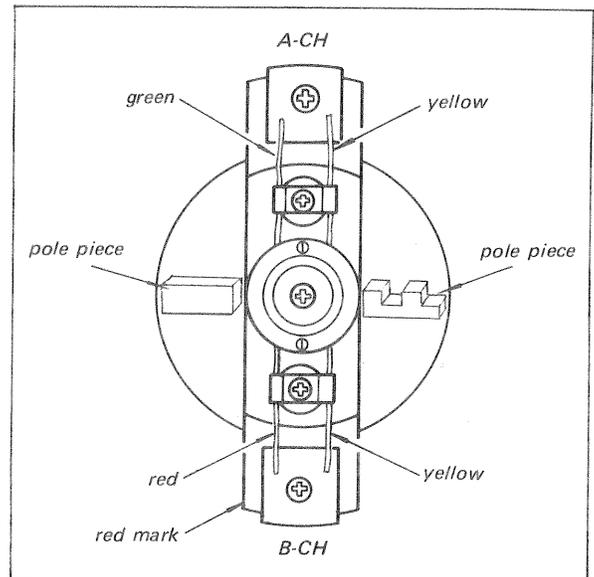

Fig. 7-8 Head mount
10. Position the platform as shown in Fig. 7-8 so that the 30PG pole piece is at the 3 o'clock position and the 60PG pole piece is at the 9 o'clock position.
11. Carefully place the new video head assembly on the platform with the B head at the 6 o'clock position and A head at the 12 o'clock position. See Fig. 7-8. The head assembly should fit down snugly against the platform without using force.